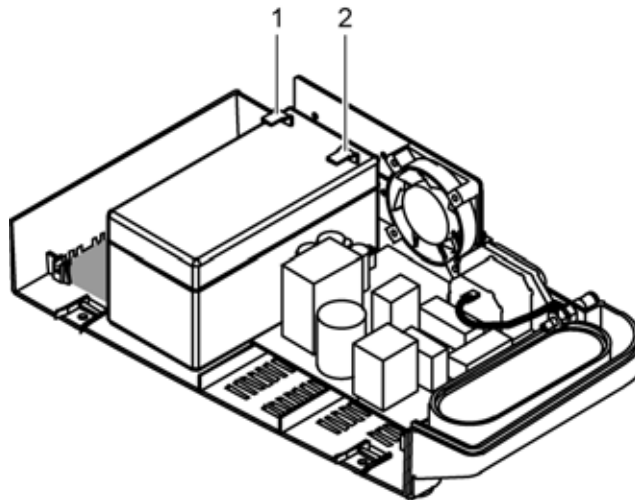

Figure 35: Battery Connections
3. Disconnect the battery wires from the battery. See Figure 35.